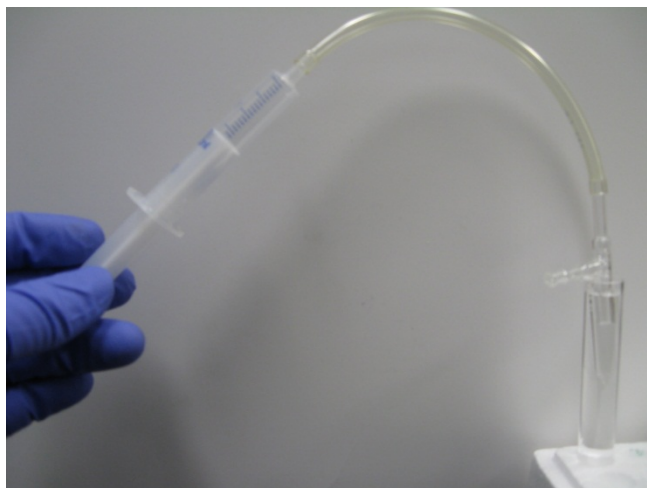

Figure 3.10. Flexible tubing attached to both Syringe and Sample Inlet of Nebulizer
- 4) Lubricate the end of the tubing with water and connect the sample inlet of the nebulizer to the flexible tubing attached to the syringe as shown in Figure 3.10. With tip still submerged in detergent, apply vacuum with syringe to infuse the detergent through the tip via the sample inlet into the syringe. This will clean the sample capillary. Repeat as many times as necessary. Note that the liquid taken up into the syringe should be dumped and should not be injected back into the nebulizer.